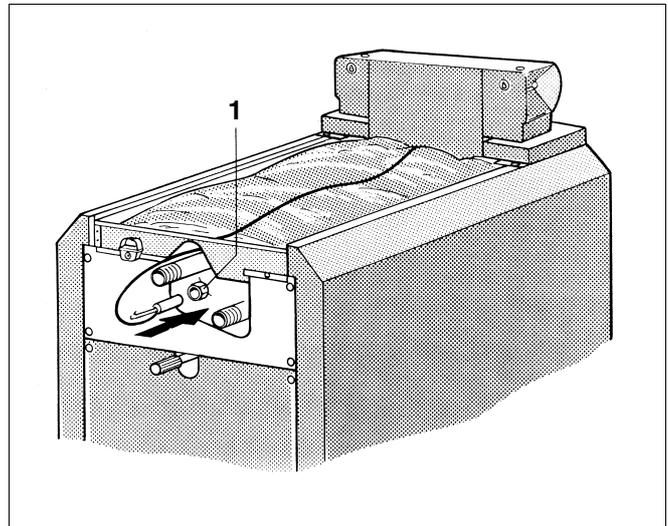

Fig. 17 Test point
- Unroll the capillary pipes of the temperature sensor (Fig. 17, **item 1**) as required and route to the test point.